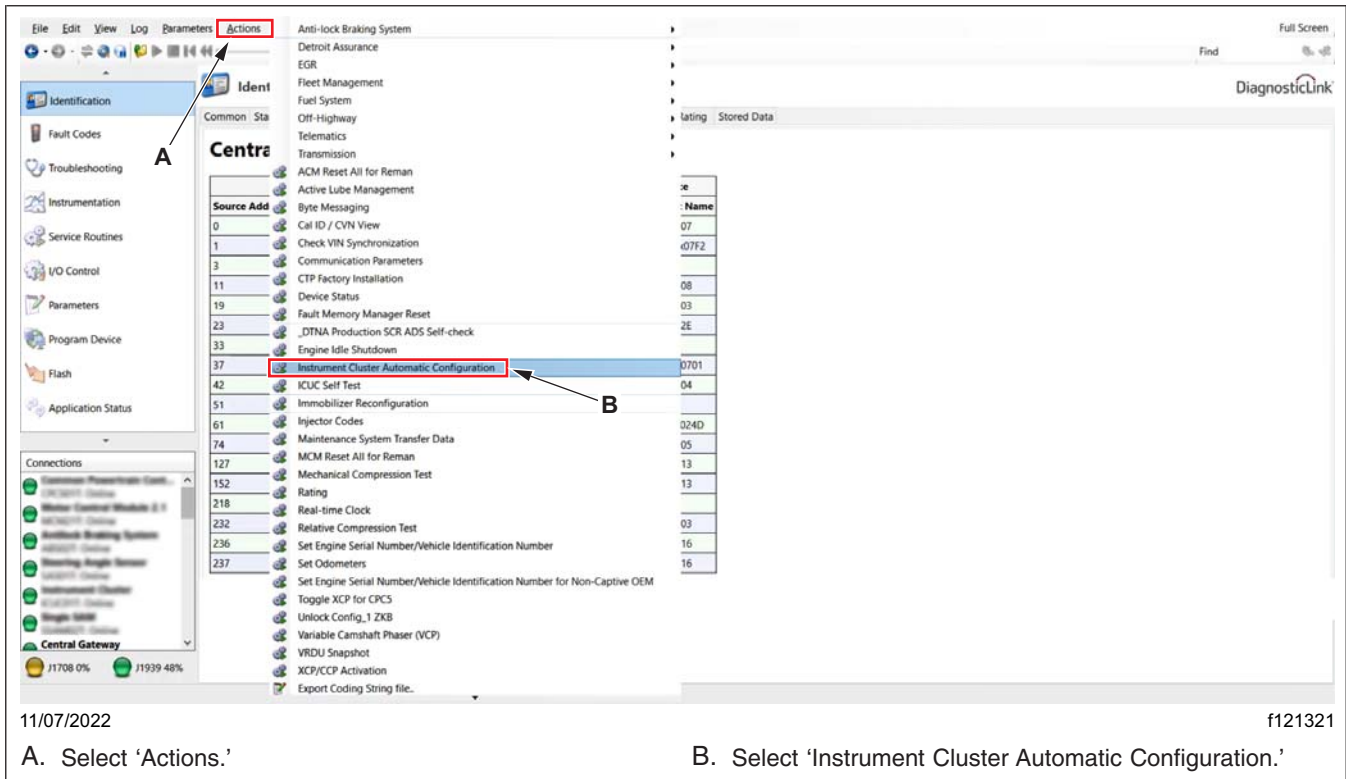

Fig. 14, Opening the Instrument Cluster Automatic Configuration Window
24. From the menu bar, select 'Actions,' then go to 'Instrument Cluster Automatic Configuration.' See Fig. 14.